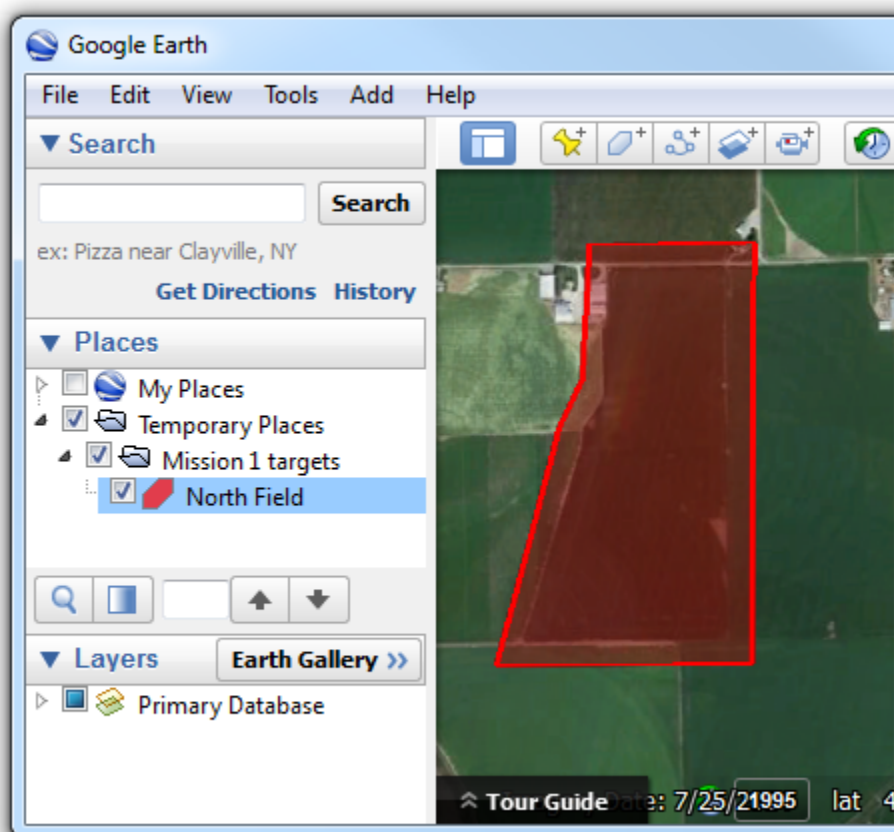

Fig. 3.16: KML target definitions in Google Earth
3. Click points around the desired area to define a polygon (Fig. 3.16). Polygon fill colors, border widths, etc. are customizable in Google Earth and have no effect on the flight computer.